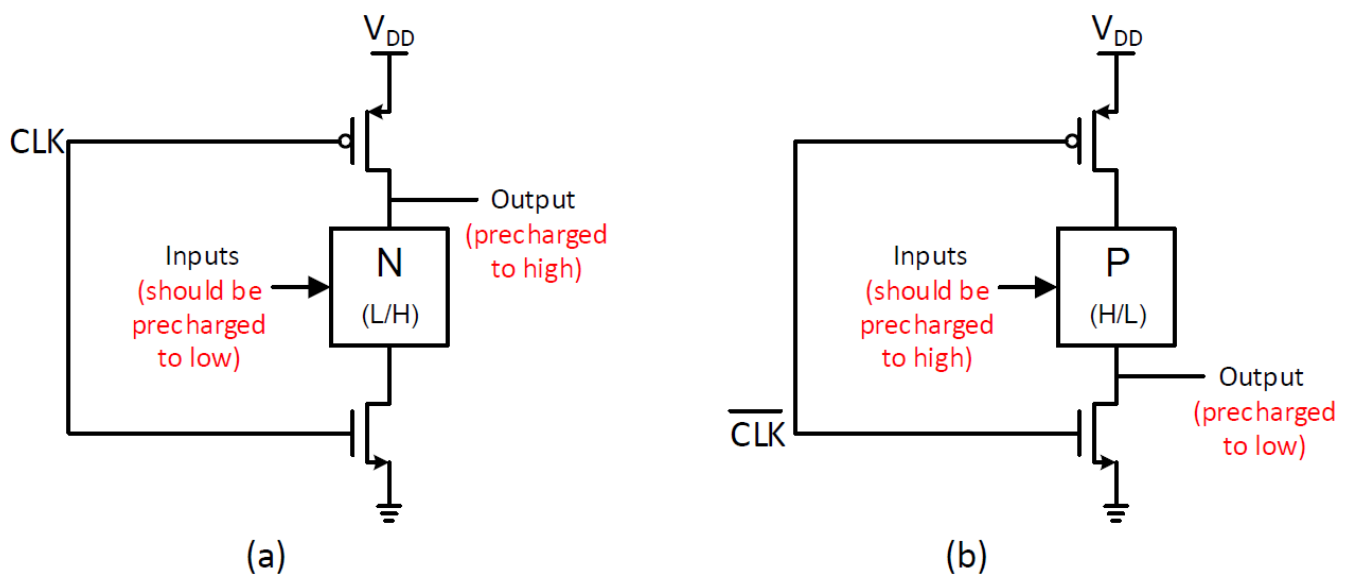
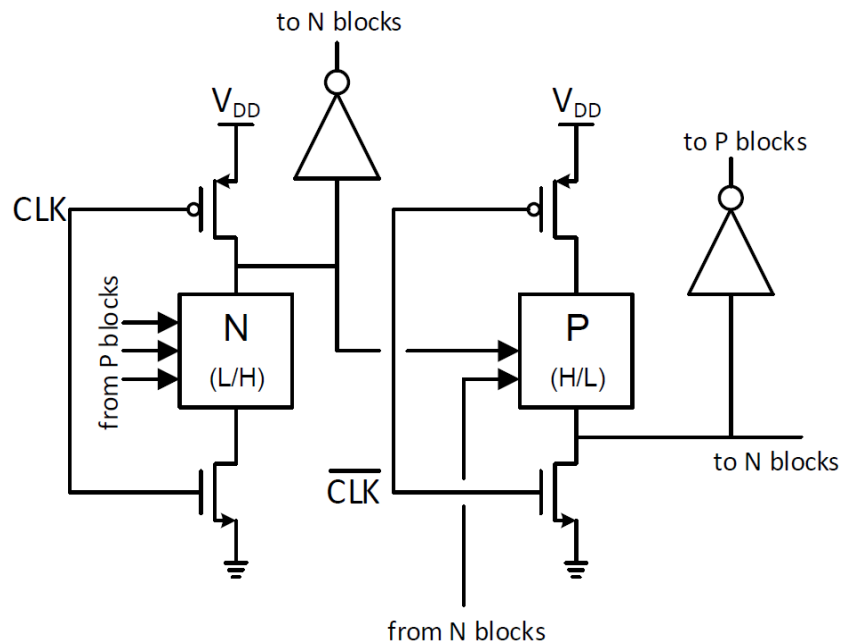

Figure 18: (a) N-type dynamic logic gate, (b) P-type dynamic logic gate
Figure 19: NP Domino Logic (footed)
For an N-type dynamic logic gate, all of the inputs should be precharged to zero before the evaluation phase starts. Naturally, the output node is precharged to one (Figure 18-a). Due to this fact, N-type gates are often referred as **input precharged low, output precharged high (L/H)** gates. Therefore, it is impossible to drive an N-type dynamic gate by another N-type dynamic gate because of these incompatibility issues at the level of precharging at the inputs and the outputs.
For a P-type dynamic logic gate on the other hand, all of its inputs should be precharged to one and the output is precharged to zero. A P-type dynamic logic gate can be seen on Figure 18-b. Analogous to the N-type gates, the P-type gates are often referred as **input precharged high, output precharged low (H/L)** gates. It is also impossible to drive a P-type dynamic gate by another P-type dynamic gate. Nevertheless, N-type gates can drive P-type gates and vice versa. Thus, instead of placing an inverter at the output of a dynamic gate as in Domino Logic, the logic can be constructed by placing N-type and P-type gates consecutively as in Figure 19. This type of dynamic implementation is called **NP Domino Logic** or **NORA (NO RAcE) Logic** (There is also a third name which is **Zipper Logic** with a slight difference).
You can see the nMOS footing device at the bottom of the circuit on Figure 18-a and the pMOS footing device at the top of the circuit on Figure 18-b. The main purpose of the footing devices during the precharge phase can be defined in the following:
- For an nMOS device (Figure 18-a, bottom) to switch off the pull down path (evaluation path)
- For a pMOS device (Figure 18-b, top) to switch off the pull up path (evaluation path)